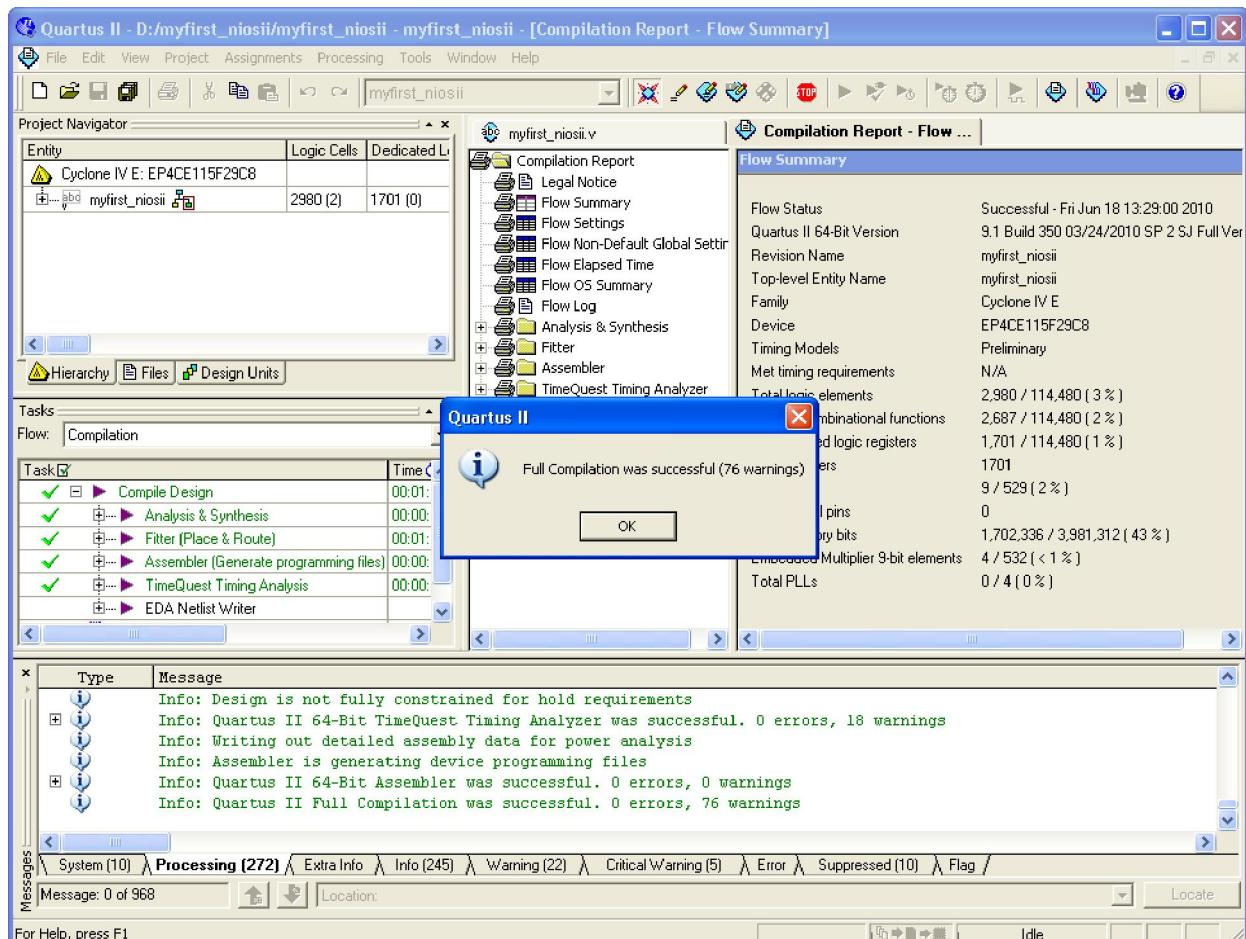

Figure 1-49 Compilation project completely
37. A window that shows successfully will appear as shown in **Figure 1-49**.